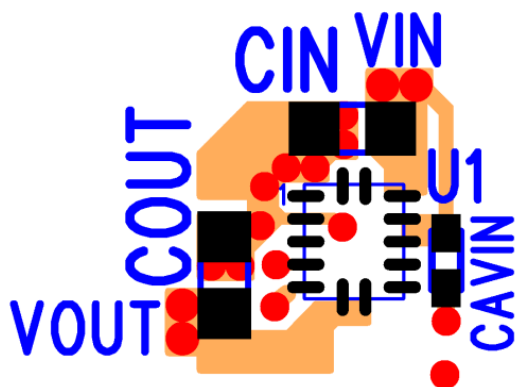

Figure 4: Top PCB Layer Critical Components and Copper for Minimum Footprint
*Figures 4 and 5 show critical PCB top and bottom layer components and traces for a minimum-footprint recommended EP5348 layout with ENABLE tied to  $V_{IN}$ . Alternate ENABLE configurations need to be connected and routed according to specific customer application. This layout consists of four layers. For the other 2 layers and the exact dimensions, please see the Gerber files at [www.altera.com/enpirion](http://www.altera.com/enpirion). The recommendations given below are general guidelines. Customers may need to adjust these according to their own layout and manufacturing rules.*
**Recommendation 5:** AVIN is the power supply for the small-signal control circuits. It should be connected to the input voltage at a quiet point. In Figure 4 this connection is made at the vias just before  $C_{IN}$ . There is an additional decoupling capacitor  $C_{AVIN}$  for AVIN which is connected between the device pin and the GND plane.
**Recommendation 7:** The top layer 1 metal under the device must not be more than shown in Figure 4. As with any switch-mode DC/DC converter, try not to run sensitive signal or control lines underneath the converter package on other layers.